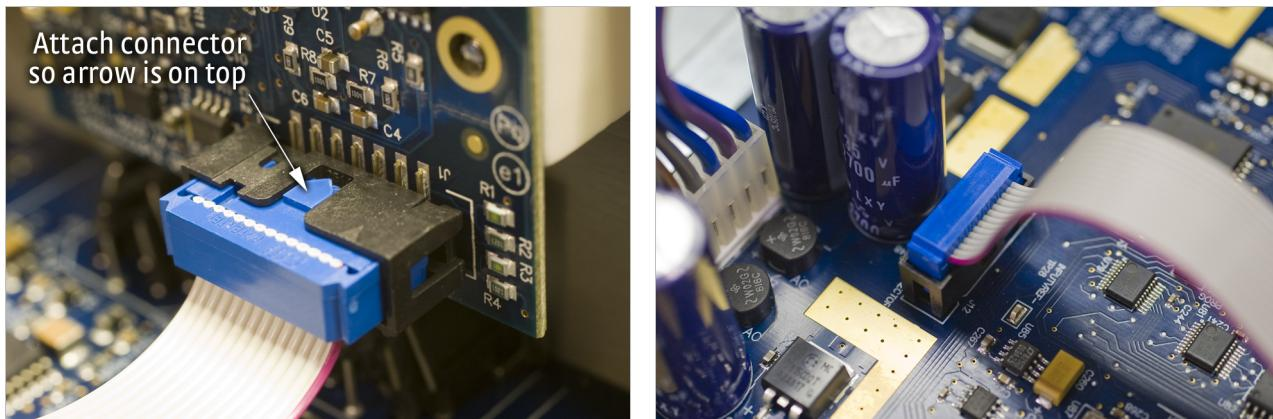

FIGURE 7-3 Proper orientation of the ribbon cable connector plug
8. Place the option card into its position in the rear panel from inside the instrument. Orient the card so that the 14-pin ribbon cable connector is toward the bottom of the instrument, closest to the main circuit board(FIGURE 7-3).
12. *This step is not applicable to the 3062 option card.* Insert the 14-pin ribbon cable connector plug into the socket on the option board. Orient the ribbon cable connector plug so that the arrow nub slides into the plug slot, and the ribbon cable exits downward (FIGURE 7-3).